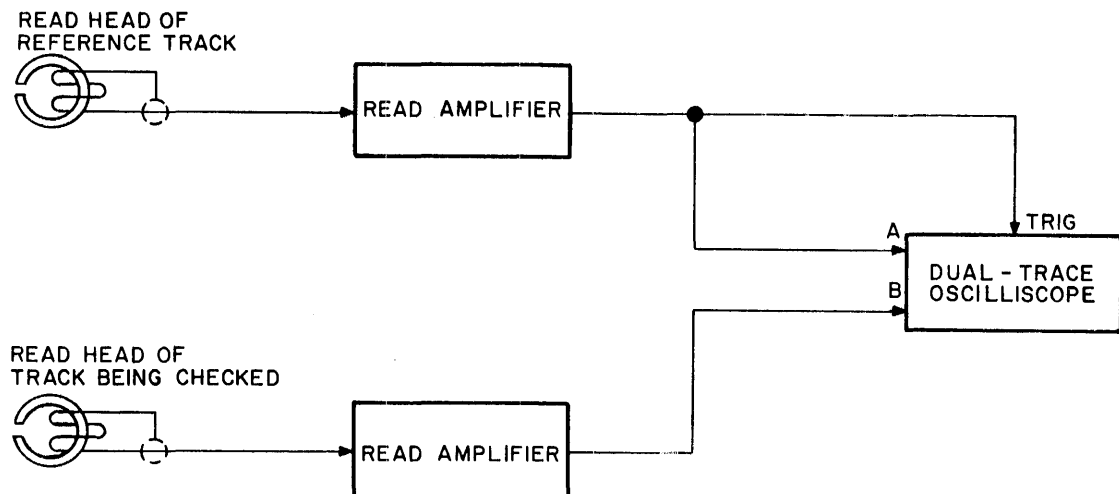

Figure 5-5.
- 4) Connect the test equipment as shown in Figure 5-5